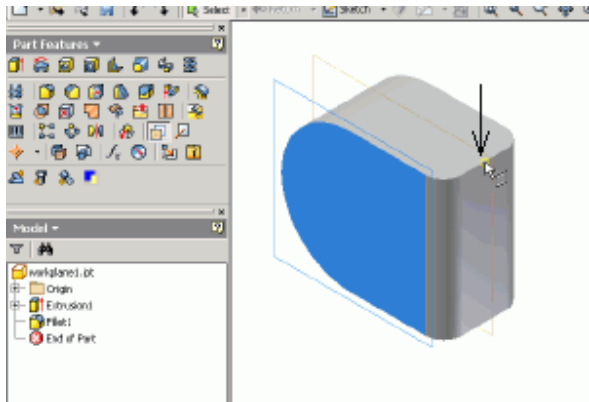

Figure 5. Select Face and vertex.
2. Select the copper colored face, then the midpoint of the top front edge as shown below (Figures 5, 6)